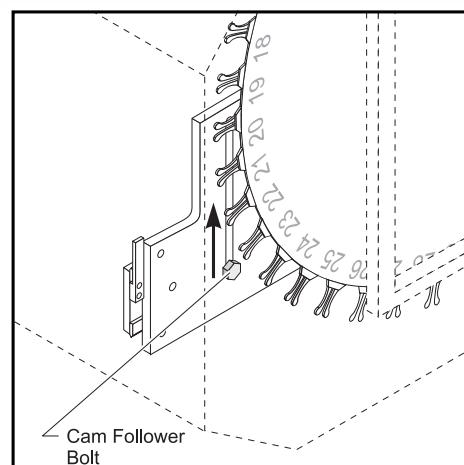

Figure 3-25.
24. The next step requires the tool changer carousel to be manually shuttled into the machine enclosure. To shuttle the carousel out, its shuttle arm must be fully rotated. First, reach in through the tool changer's window, push up on the cam follower bolt (as shown in *Figure 3-25*) and then move the carousel to its fully extended position in the enclosure. Verify that it is fully extended by inspecting the location of the cam follower bolt. The cam follower bolt should bottom out at the end of the guide slot.